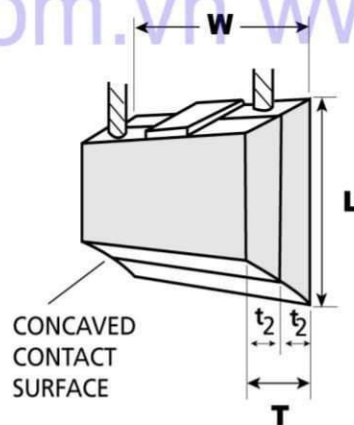

Figure 4. Multi-wafer Brush
- Note 2. The thickness of a multi-wafer brush is the total dimension which enters the brush box. See Figure 4.